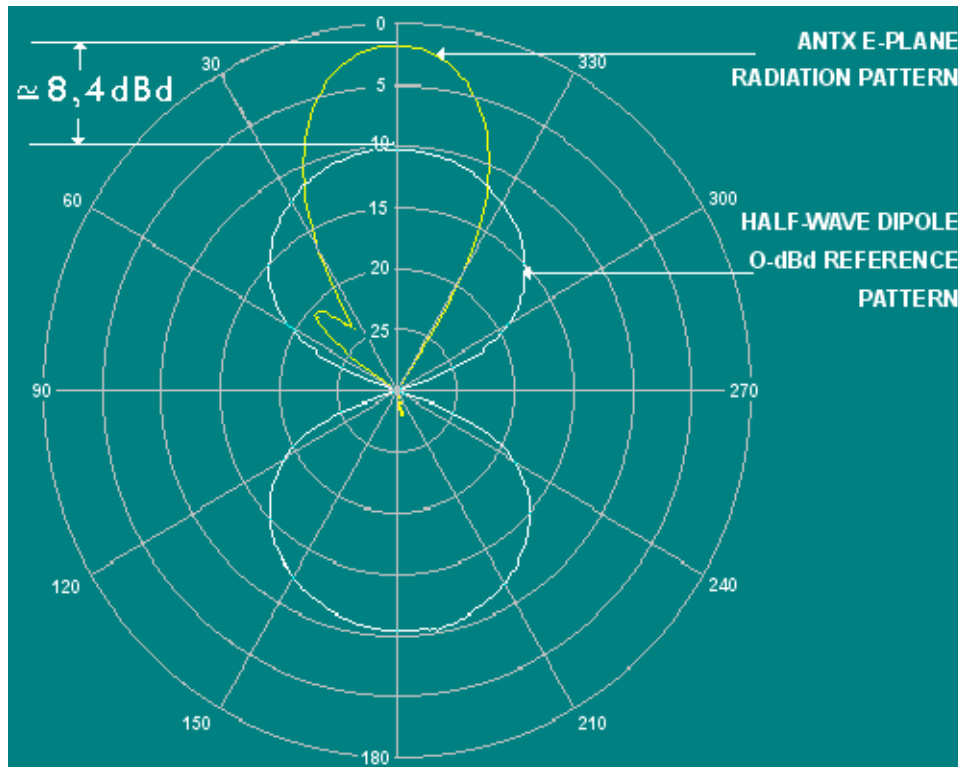

Figure 12-10. Gain expressed as a value over a dipole reference
- 13. In Exercise 1-2, you saw that the antenna gain, which equals directivity multiplied by antenna efficiency, is a value expressed in dB relative to a hypothetical isotropic antenna. In antenna literature, you will often encounter antenna gain expressed in dBi, which is the gain relative to an isotropic radiator. Antenna gain can also be expressed relative to a half-wave dipole, thus gain in dBd, as shown in Figure 12-10. This figure shows the E-plane radiation patterns of a half-wave dipole (the 0-dB reference) and an example antenna, AntX. As can be seen from these patterns, the MSL of AntX is about 8.4 dB greater than the MSL of the dipole. Therefore, the gain of AntX is 8.4 dBd with respect to the 0-dB reference plot of the half-wave dipole.